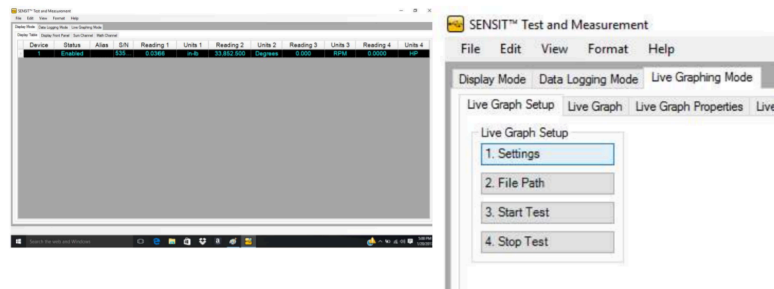

Figure 6: Live Graphing Mode Tab
- After the software loads, Figure 6 should be visible. Click on the **Live Graphing Mode** tab and into the **Live Graph Setup** subtab. Click the “1. Settings” button